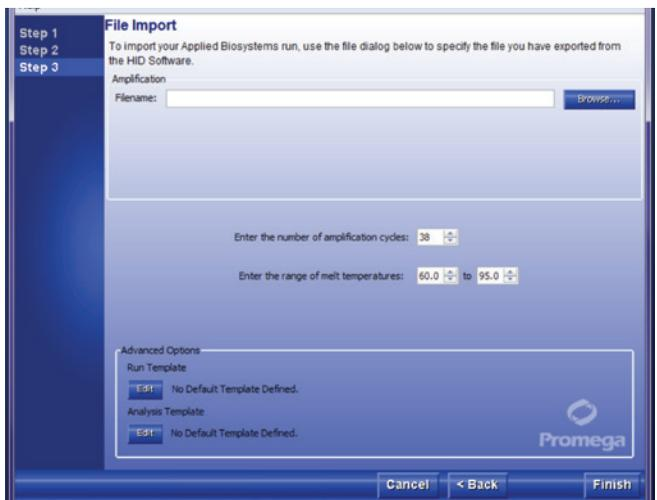

Figure 20. File Import. Specify the data file to be imported and run parameters. Templates also may be applied.
10. In Step 3, use the File Import screen (Figure 20) to specify the appropriate data file.
11. Enter the number of amplification cycles (38), and the range of melt temperatures (60 to 95 for the default dissociation profile).